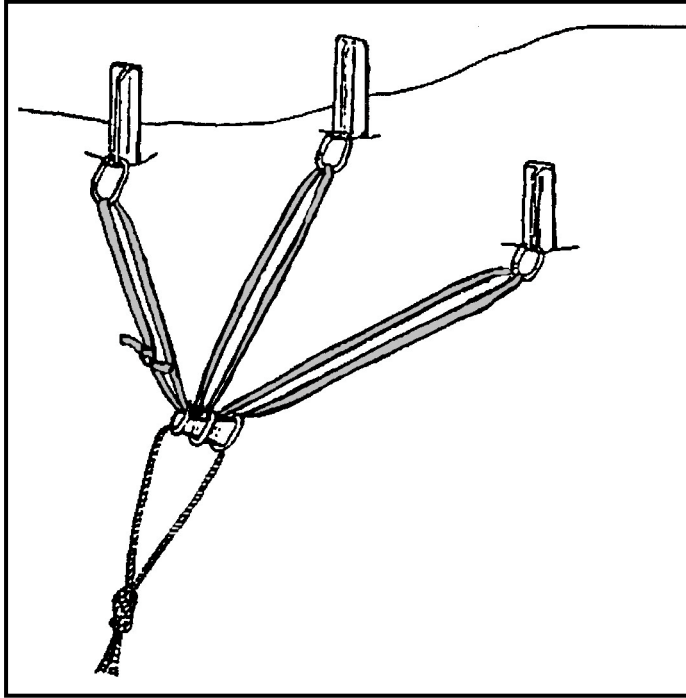

Figure 10-19. Equalized anchor using pickets.
(1) Whenever possible, two or more anchors should be used. While this is not always practical for intermediate anchor points on lead climbs or fixed ropes, it should be mandatory for main anchors at all belay positions, rappel points, or other fixed rope installations. (Figure 10-19, page 10-18, shows an example of three snow pickets configured to an equalized anchor.)
(2) As with multipoint anchors on rock, two or more snow or ice anchors can be joined together with a sling rope or webbing to construct one solid, equalized anchor. A bowline on a bight tied into the climbing rope can also be used instead of sling ropes or webbing.